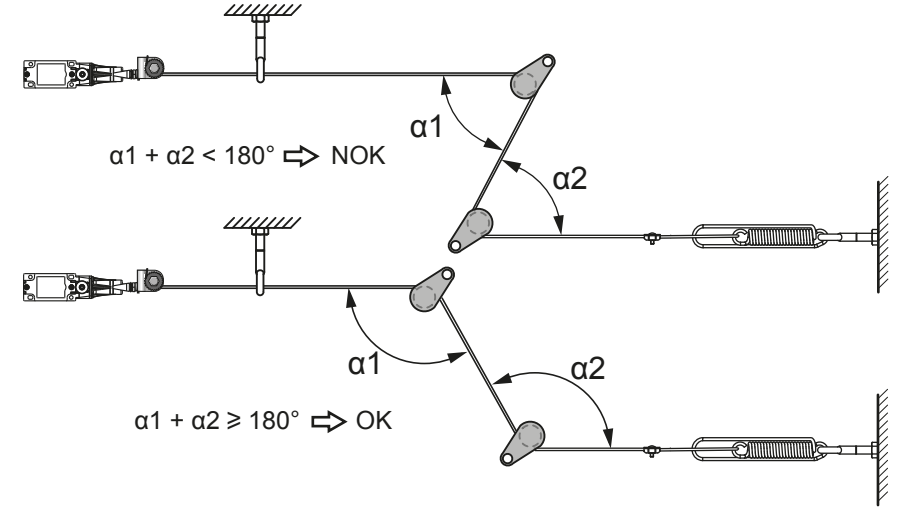

Fig.9 Signaling of the tripping / Signalisation du déclenchement / Signalisierung der Auflösung / Señalización del disparo / Indicazione di escursione / 发出跳闸信号
1. Use the turnbuckle ⑦ to tighten the cable ⑤ until the index ⑩ is between the marks ⑨
2. Arm the device by pulling on the button ⑧ : a "click" will sound and the green label must be completely visible (fig. 9).
3. Trip the device by pulling on the cable ⑤